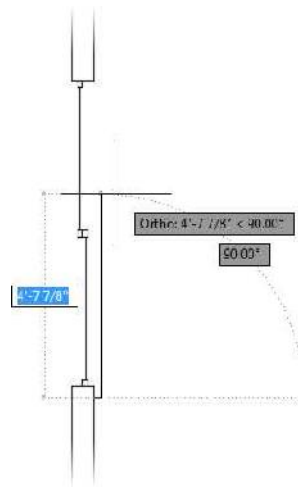

FIGURE 5.6: Using direct input to draw the bottom edge of the threshold
8. Hold the crosshair cursor directly to the right of the last point; when you see the alignment path and tooltip, enter **2↵ (51↵)**, as shown in Figure 5.6.